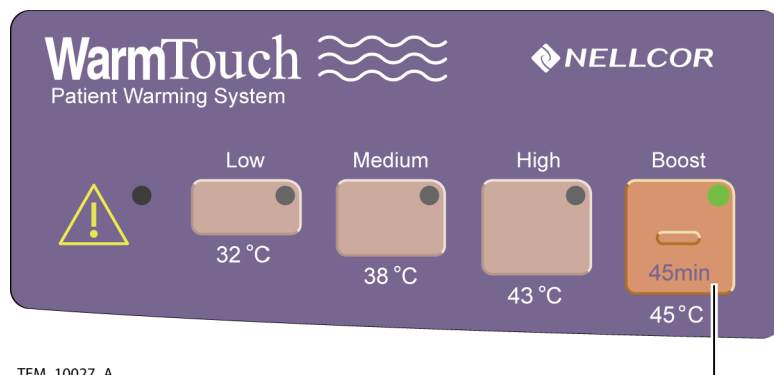

Figure 9. WT-5300A Boost Temperature Setting
11. Select the Boost temperature setting. See Figure 9.